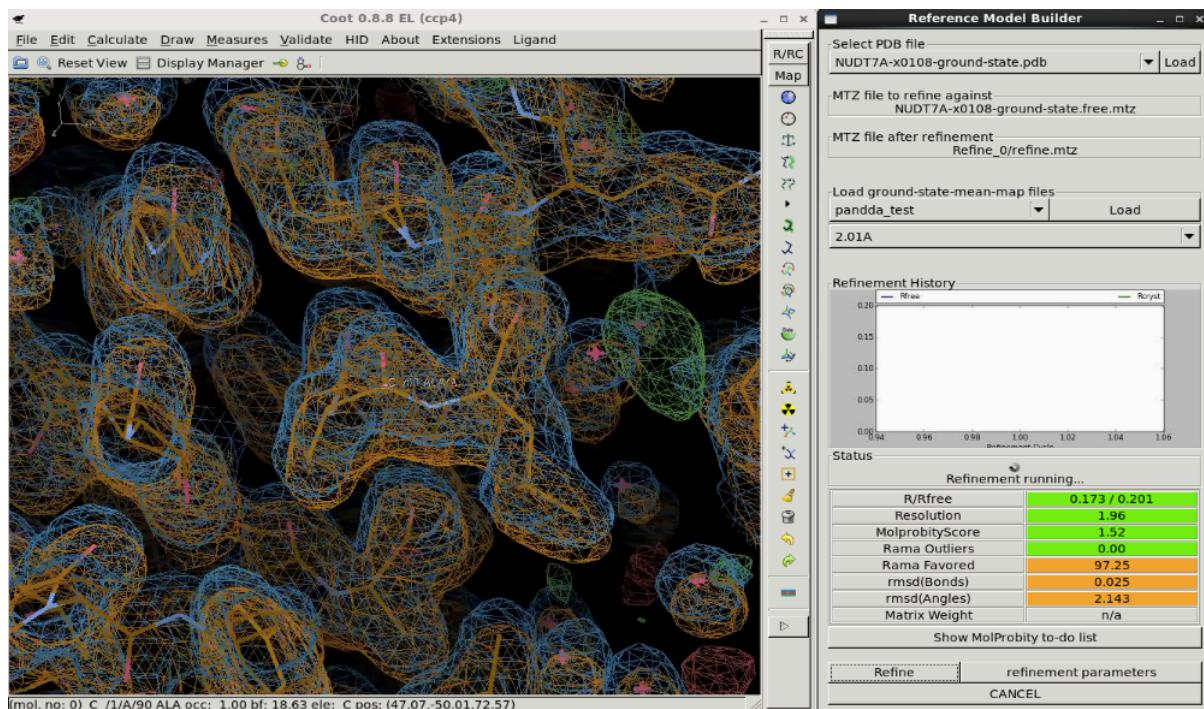

Figure 33. COOT interface during refinement. Note the little spinner in the middle of the panel which indicates that the refinement is still running.
- The modified model will be refined on the DLS cluster. A spinner will appear in the refinement panel and it will spin until the refinement is finished (see Figure 33). You cannot launch another refinement job while the current refinement is not finished.